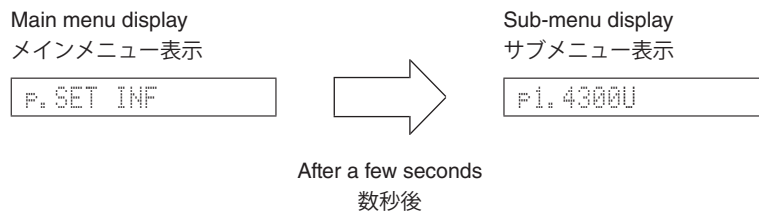

Fig. 1
3. Select “p. SET INFORMATION” menu. (Fig. 1)
(Fig. 1)